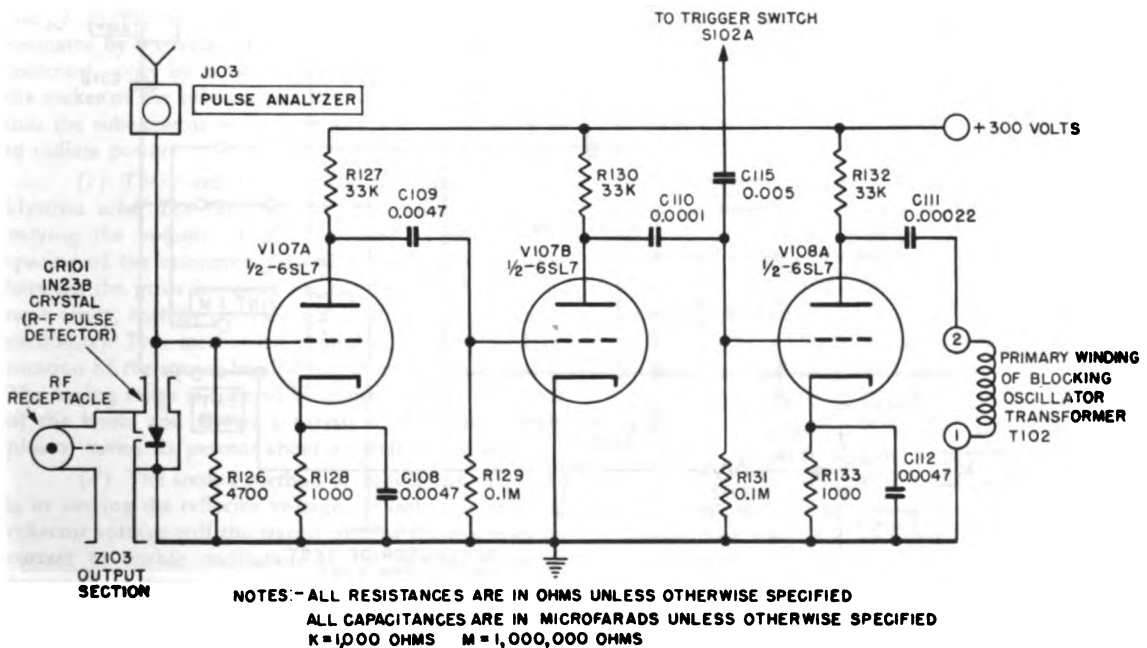

Figure 2-13. R-F Pulse Detector and Amplifier Circuit—Simplified Schematic
(1) R-F PULSE DETECTOR AND TRIGGER AMPLIFIER CIRCUIT (figure 2-13).